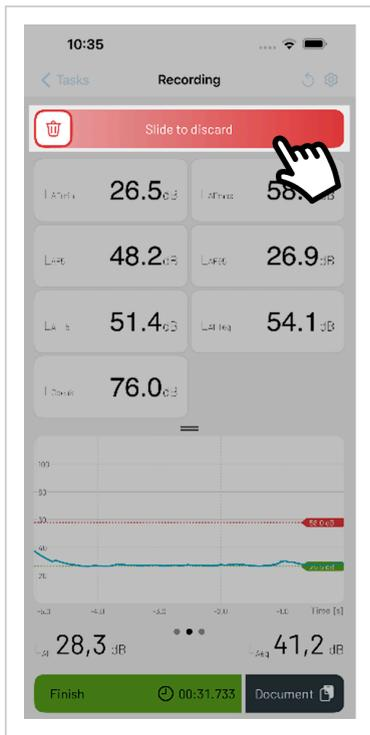

Figure 11: Discarding a measurement.
- If you want to discard the measurement, swipe across the red area at the top from "left to right" (Figure 11).